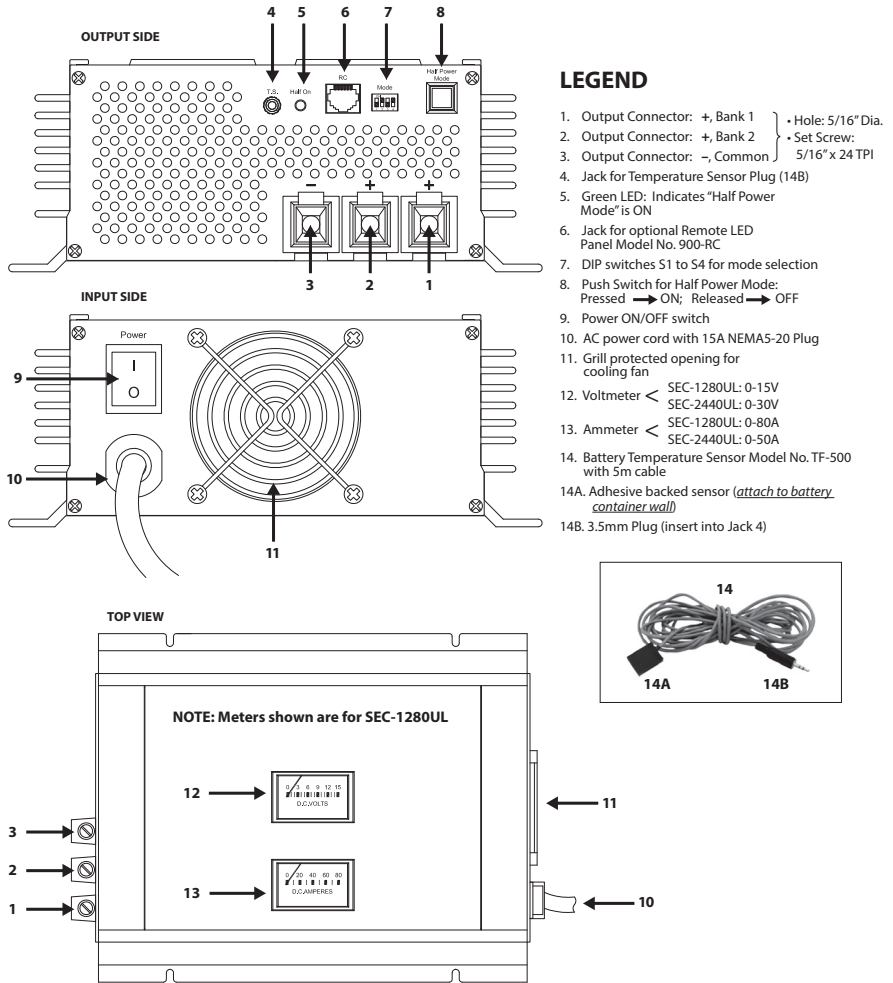

Fig. 3 Layout of SEC-1280UL and SEC-2440UL
The type of Lead Acid Battery and the desired charging algorithm can be selected with the help of DIP Switches S1 and S2 (*7 in Fig 3*). For details, please refer to Sections 7.4
- (a) The Output Connectors of the charger consist of one common Negative Connector (3, Fig 3) and two Red Positive Connectors (1, 2 in Fig 3) for charging two banks of batteries. Each of the two Positive Connectors of the two banks has Schottky Diodes in series for isolation. These isolating Schottky Diodes have a current dependent forward voltage drop "Vf" ranging from 0.2 to 0.3V (at 0.1A) to 0.8V (at 80A). In addition, there will be additional forward drop "Vb" across the bulk resistance of the Schottky Diodes and this drop will also increase with increase in charging current. **Please note that the forward voltage drops "Vf" and "Vb" occur only when current flows through the Schottky Diode i.e. when the charger is supplying current to the battery / load.**